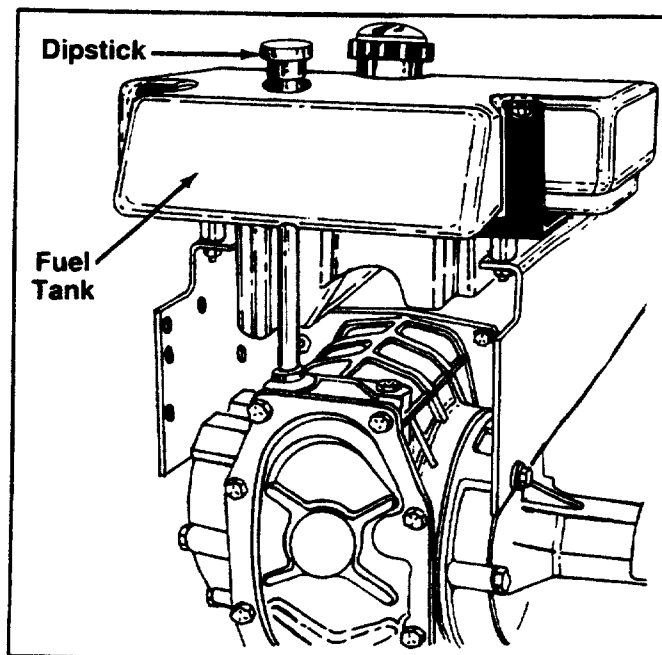

FIGURE 8.
18. Remove the dipstick first; disconnect the fuel lines. See figure 8.